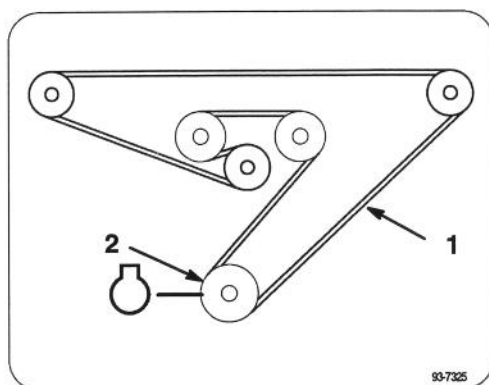

Figure 6
8. Pull on idler pulley to relax belt tension and install mower drive belt into the top engine drive pulley groove (Fig. 6).